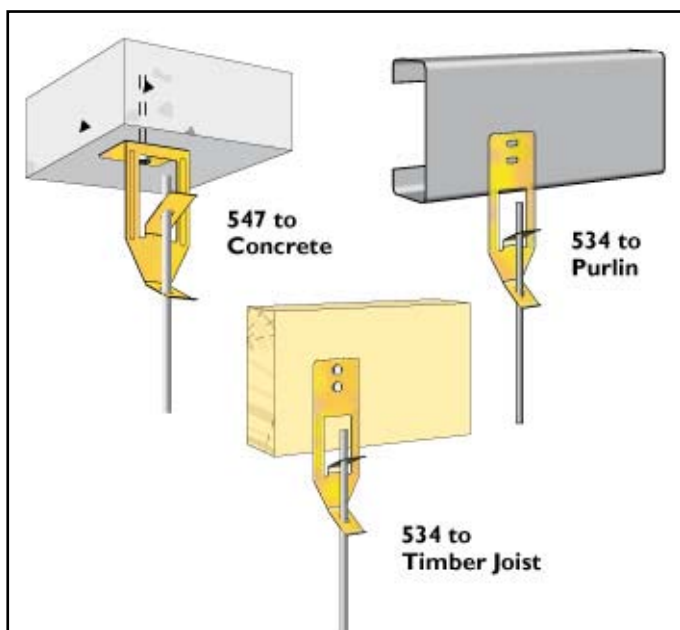

FIGURE 6: Hanger clips
3. Cut 121 suspension rod to required length and slide into hanger clip tabs. Refer Figure 6.